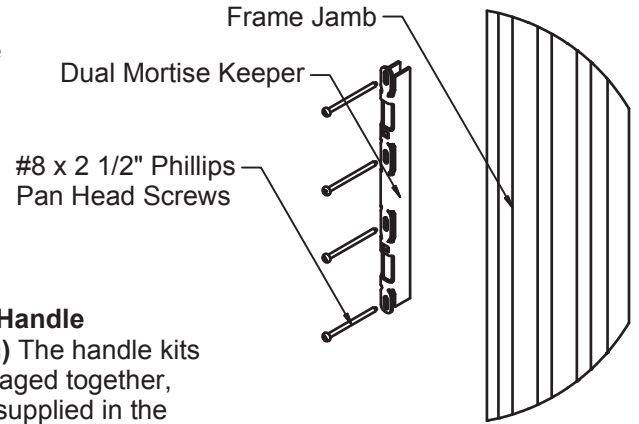

Figure 12.
**Step 18. (Keeper Installation)** To complete the frame installation, use the supplied #8 x 2 1/2" stainless steel phillips pan head screws to install the dual mortise keeper. There will be dimples in the frame jambs to help locate the keeper (See Figure 12). Install the keeper at each frame jamb before proceeding to the next step.